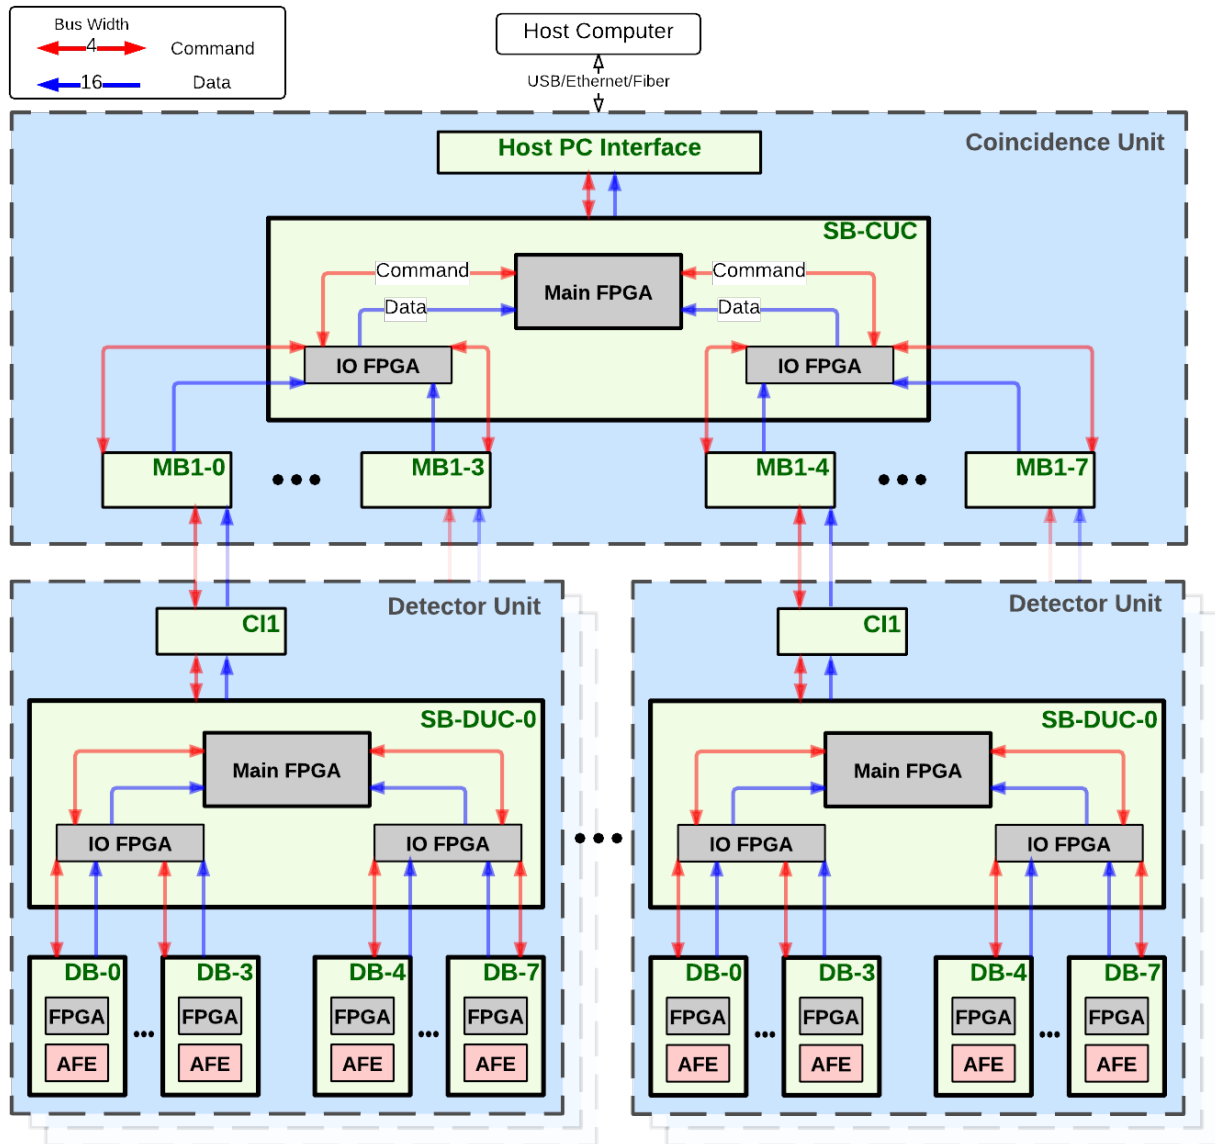
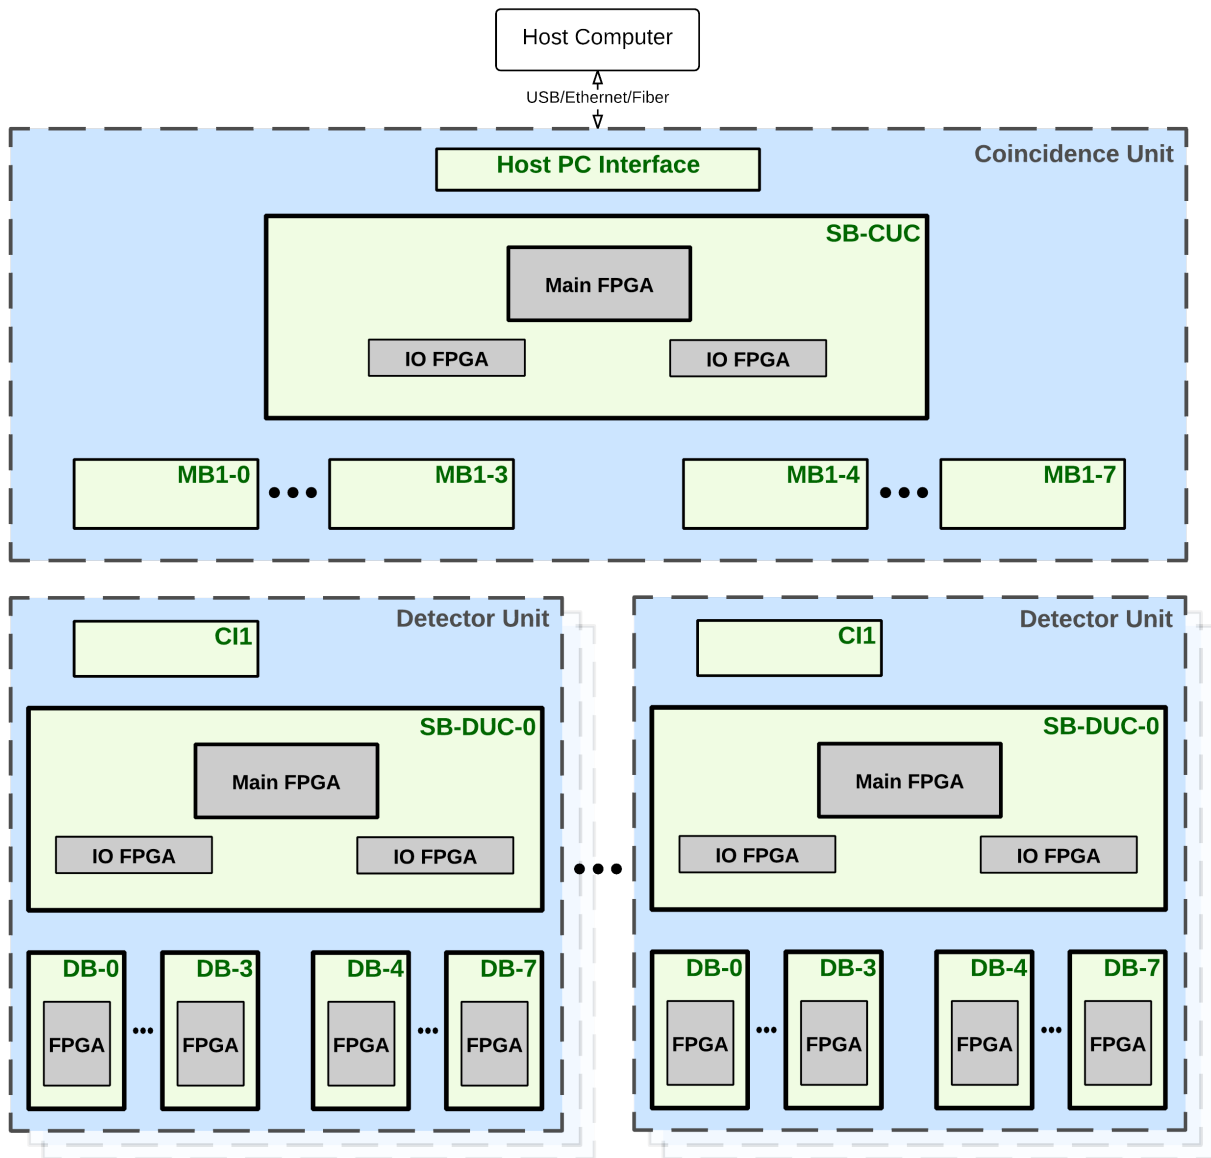

Fig. 2.6: Standard system hardware structure.
Fig. 2.7: Standard system firmware and software structure.
The basic hardware structure for a standard OpenPET system is shown in Fig. 2.6.
The command bus is shown in red in Fig. 2.6. Four LVTTTL single ended lines are used to pass bi-directional command data between the boards. This command bus uses a custom serial digital bus protocol, consisting of a Clock line (CLK), Data In line (DI), Data Out line (DO), and Chip Selection line (CS). In the current protocol, the Chip Selection line is not utilized.
The data bus is shown in blue in Fig. 2.6. Sixteen LVDS differential pairs are used to transfer list mode data upstream from the Detector Boards to the host computer.
Each Detector Board has an Analog Front End (AFE) and a single Field-Programmable Gate Array (FPGA), as shown in Fig. 2.6.
The firmware and software structure is shown in Fig. 2.7, corresponding to the hardware structure shown in Fig. 2.6. As described in the previous section, All FPGAs (two on supportboard and one on detectorboard) implement software (using NIOS II soft core) and firmware using HDL. The Support Board loaded with coincidence firmware and software is called the Coincidence Unit Controller (CUC). The Support Board loaded with detection firmware and software is called the Detector Unit Controller (DUC).